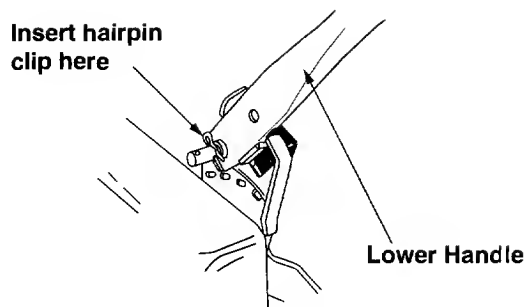

Figure 4
- Using a pair of pliers, squeeze one leg of the lower handle against the handle mounting bracket. Insert the hairpin clip into the inner hole on the weld pin. Repeat on the other side. See figure 4.